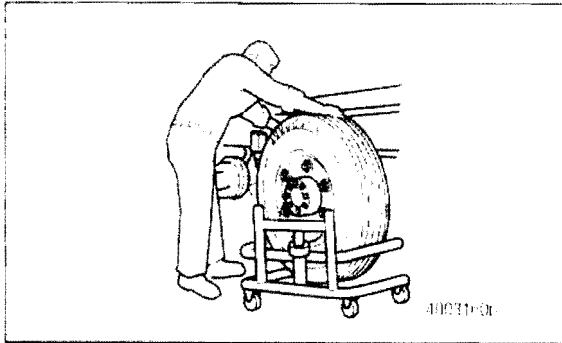

Figure 5
1. Follow the wheel manufacturer's instructions to remove the tire, wheel assembly, and brake drum. Figure 5.